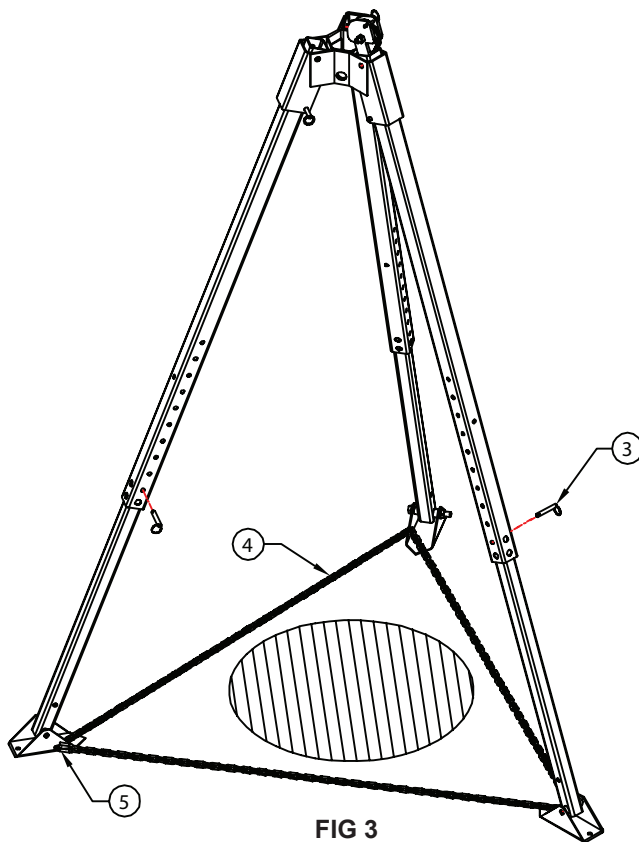

FIG 3
5. Position tripod over entry (See Fig.3) and ensure structure is level. Adjust lengths of leg(s) as required by removing leg adjustment pins and extending or retracting leg(s) as needed. Be careful to reinstall all leg adjustment pins once tripod is level.